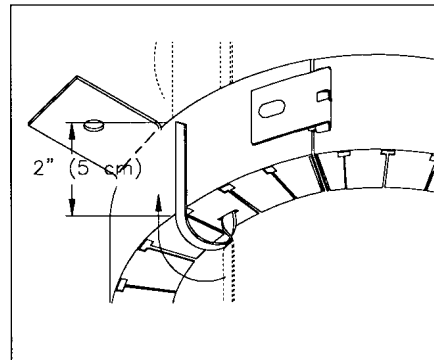

Figure 5: Pull down straps, twist and wrap around
F. Pull down on Ultra Fast Anchor Straps until spring tab comes in contact with opposite edge of the opening. Using pliers pull anchor strap approximately 1/2 inch (13 mm) and at the same time put a half twist in the strap and then bend the strap over the PPD body. (Figure 5)
G. The length of excess strap will vary depending on the thickness of the substrate (ie. gypsum or hollow CMU versus solid concrete). The excess strap can be cut off if desired. Remaining strap length must be a minimum 2 inch (5 cm) after bending the strap over the PPD body. (Figure 5)